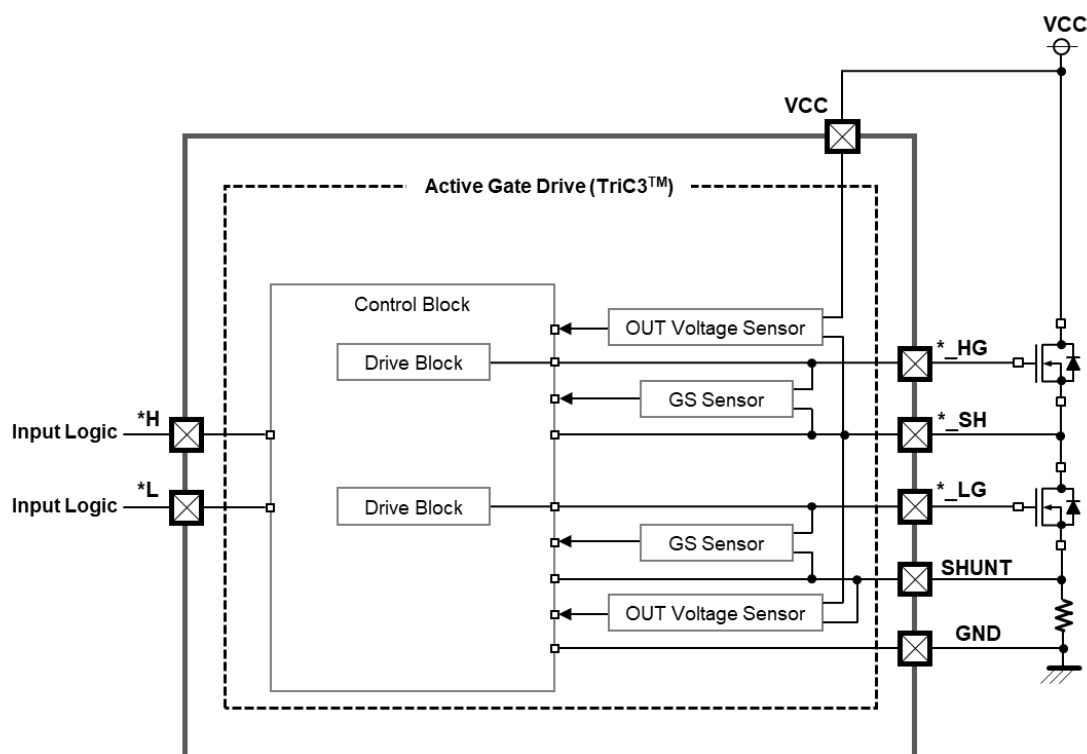

Figure 10. Circuit Configuration of TriC3™
Figure 10 shows the circuit configuration of TriC3™. Four sensors are used to actively monitor various voltages, and the information is then used to control the gate drive voltage. The four sensors are the Gate-Source (GS) sensor of the high-side MOSFET, the GS sensor of the low-side MOSFET, the low-side potential sensor of the OUT voltage and the high-side potential sensor of the OUT voltage. These sensors are required to perform at high speed, as this speed of operation significantly impacts their efficiency. To reduce the overall power consumption of the gate driver, these sensors are configured to keep their current consumption low.